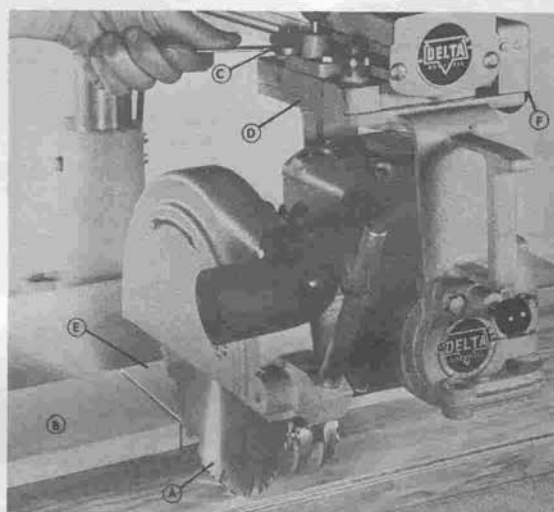

FIGURE 11
1. Tighten rip lock (F), and raise cutting head about 2 inches above table.
2. Loosen bevel clamp handle (B) as shown.
3. Loosen hex lock nut (C).
4. Turn bolt (D) clockwise to tighten, using wrench, then securely lock by re-tightening hex nut (C).
5. Bevel clamp handle (B) will now furnish rigid holding action at any angle.
6. Install saw guard as in Fig. 11.
Check "Heeling" in saw cut, see Fig. 11. Even though the track-arm may be perfectly aligned to guide fence you may feel a "drag" in cutting action. This means that the saw blade teeth are not cutting in a true plane. In effect, the back teeth of the cutting blade are not following the plane (Kerf) of the front teeth.
3. If saw teeth marks appear on the (E) side Fig. 11, this means that the back end of the saw blade (A) must be shifted toward (B) side.
4. Loosen yoke clamp handle (F). Then loosen both hex cap screws (C) and turn yoke (D) COUNTER-CLOCKWISE. If saw teeth marks appear on (B) side of board, turn yoke (D) CLOCKWISE.
5. Tighten yoke clamp handle (F) to hold position. Re-tighten cap screws (C) and make another test.